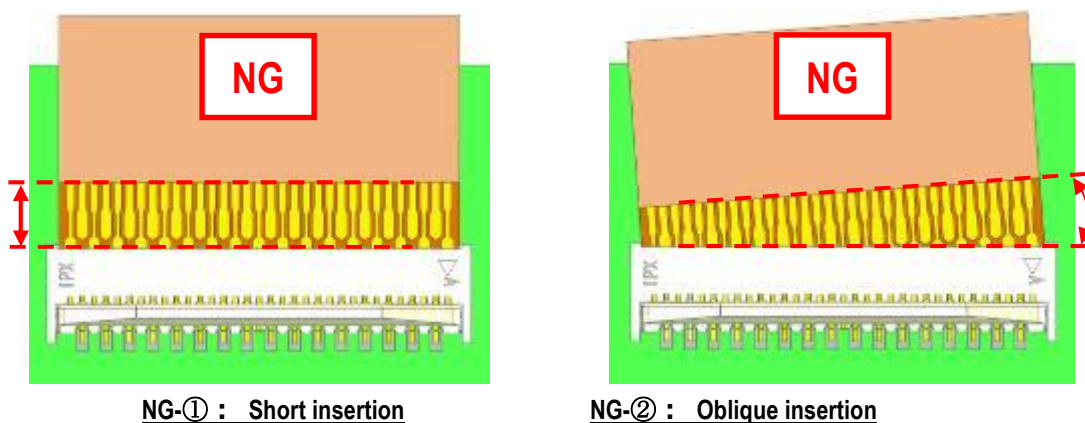

Fig.4 FPC insertion (NG)
(1) If the short insertion and oblique insertion of FPC occur as shown in Fig.4, electrical connection NG and a short circuit will be caused.